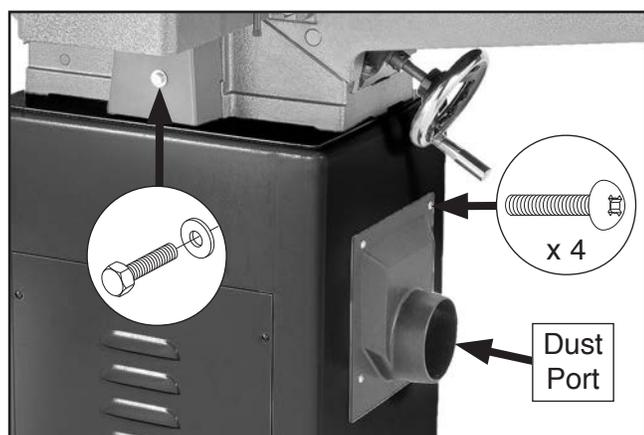

Figure 2. Belt guard and dust port installed.
20. Install belt guard with $\frac{5}{16}$ "-18 x $2\frac{1}{2}$ " hex bolt and $\frac{5}{16}$ " flat washer (see **Figure 2**).
21. Install dust port, as shown in **Figure 2**, using (4) pre-installed Phillips head screws.